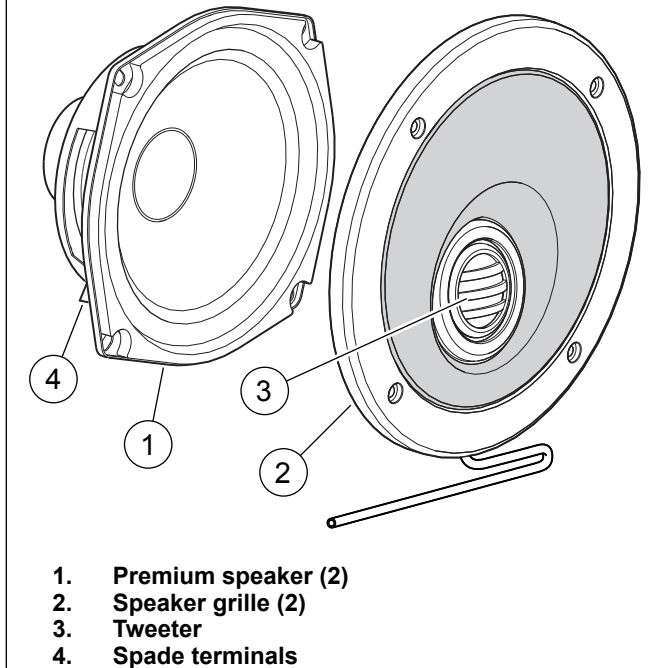

Figure 3. Boom! Audio Rear Speaker Kit Components
1. See Figure 3. Position a speaker grille (2) against the face of a speaker (1) as shown, with the speaker spade terminals (4) pointed **down**, and the tweeter (3) at the bottom of the grille. Feed the tweeter wires downward and out between the grille and speaker.